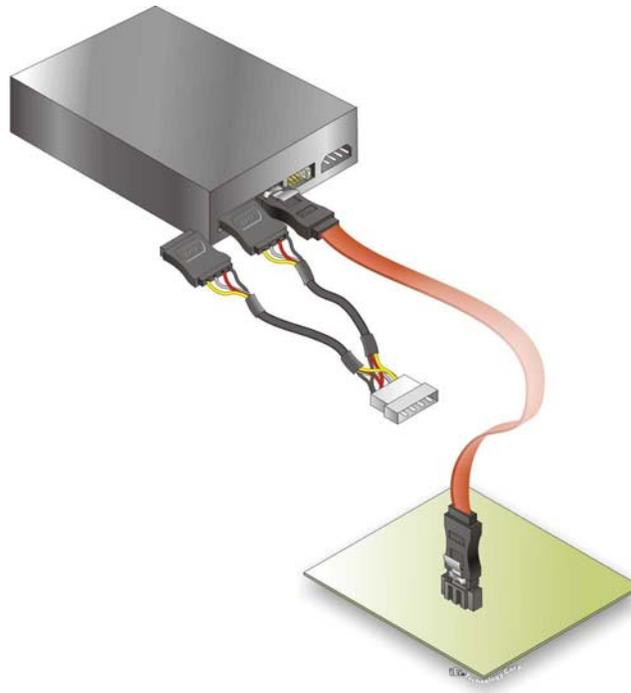

Figure 5-15: SATA Power Drive Connection
Step 3: Connect the cable to the SATA disk. Connect the connector on the other end of the cable to the connector at the back of the SATA drive. See **Figure 5-15**.
Step 4: Connect the SATA power cable. Connect the SATA power connector to the back of the SATA drive. See **Figure 5-15**.